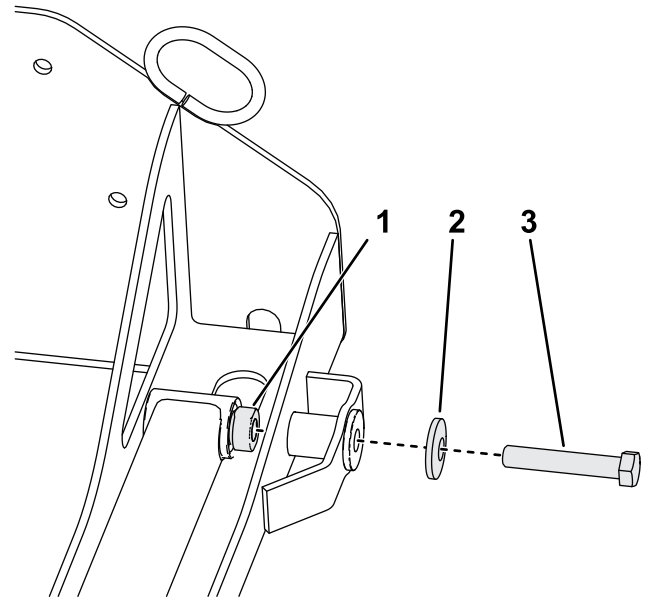

Figure 13
4. Secure the front of the lift arms to the mounting assembly using the 2 hex-head bolts and 2 curved washers removed from the attachment in 3 Preparing the Traction Unit \(page 8\) as shown in Figure 13.